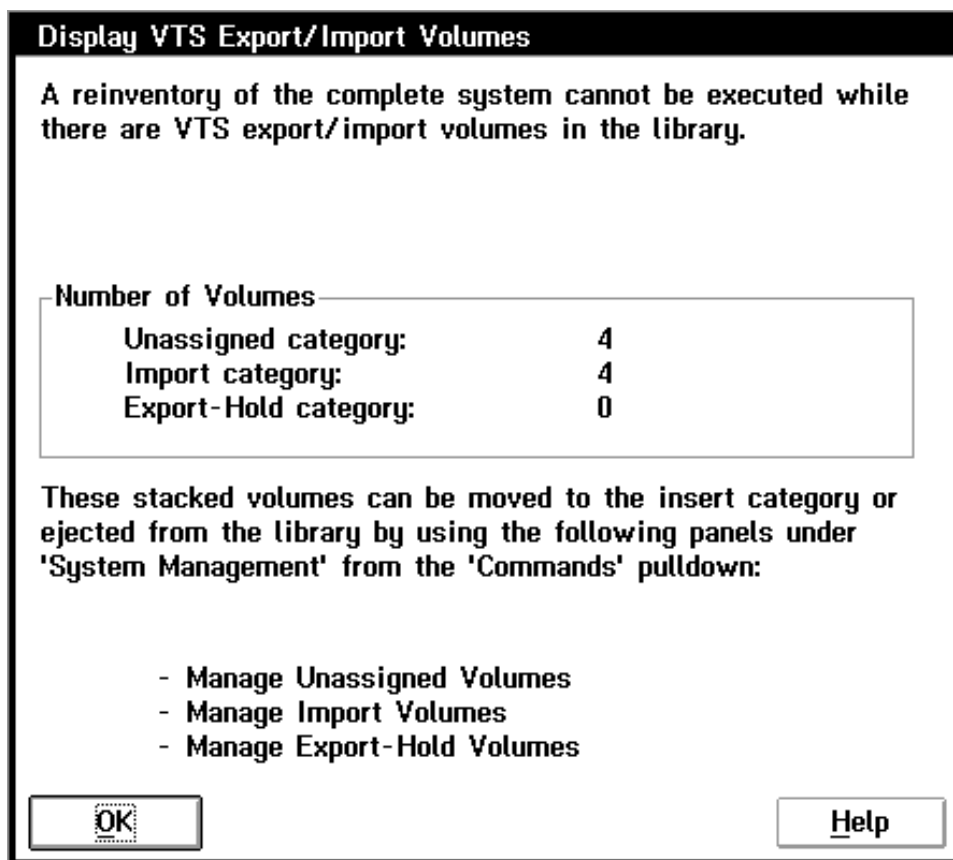

Figure 126. Display VTS Export/Import Volumes Window
2. If you select the **Re-inventory Complete System** option and there are VTS Import or Export Stacked Volumes in the Unassigned, Import, or Export-Hold categories, then the Display VTS Export/Import Volumes window (Figure 126 on page 220) opens. You cannot continue with the re-inventory until you eject the Export and Import volumes. The re-inventory is blocked to prevent the possible destruction of important exported data. You should exit this window, then select the appropriate windows under the Commands window under **System Management** in the LM Operator window and eject the indicated volumes. When you have ejected all Export and Import volumes from the 3494, you can then select the **Re-inventory Complete System** option and continue.